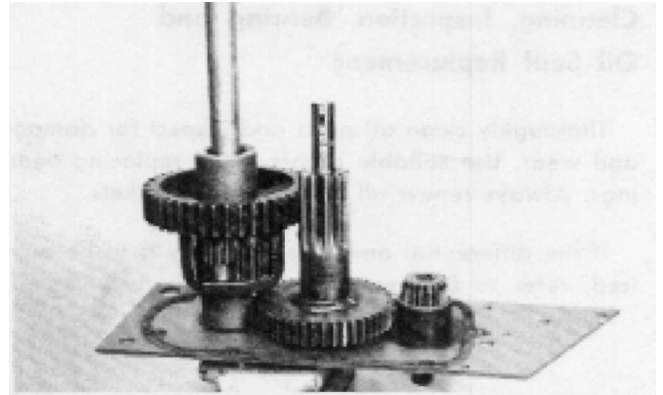

FIGURE 7
10. Remove the differential and axle assembly, the broke shaft gear and the input gear and shaft. See Figure 7. Remove the input shaft seal.